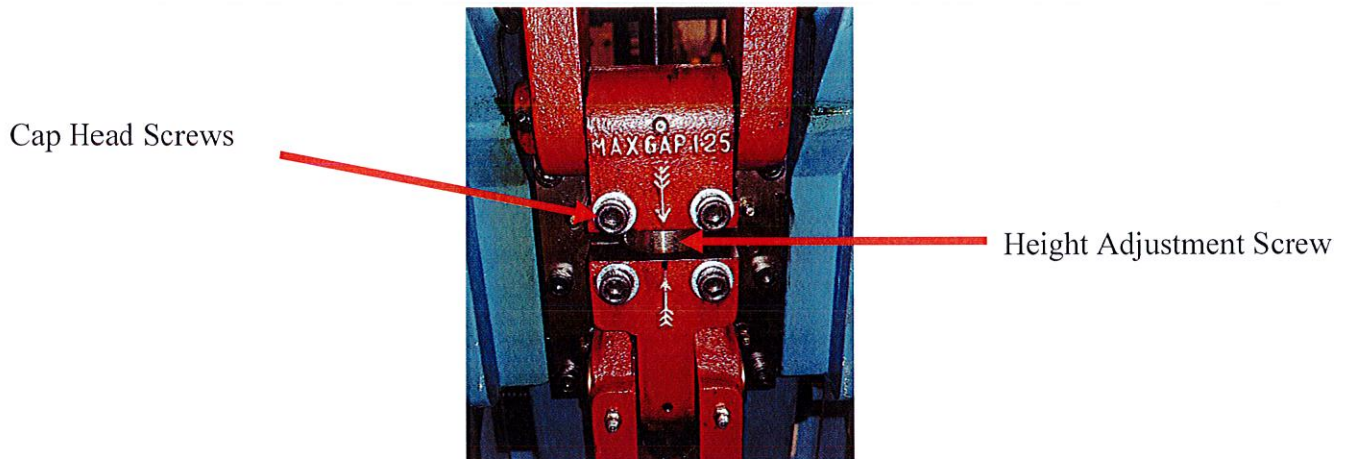

Figure 6: Tool Height Adjustment.
**6.6. Tool Adjustment.** In order to achieve the correct bend angle on the component, you will have to adjust the height of the bending tool. Firstly, release the air from the machine (Refer back to step 6.5). Loosen the four cap head screws and wind the adjustment screw in between them to set the height. (Figure 6) Remember to tighten the four cap head screws after adjustment.